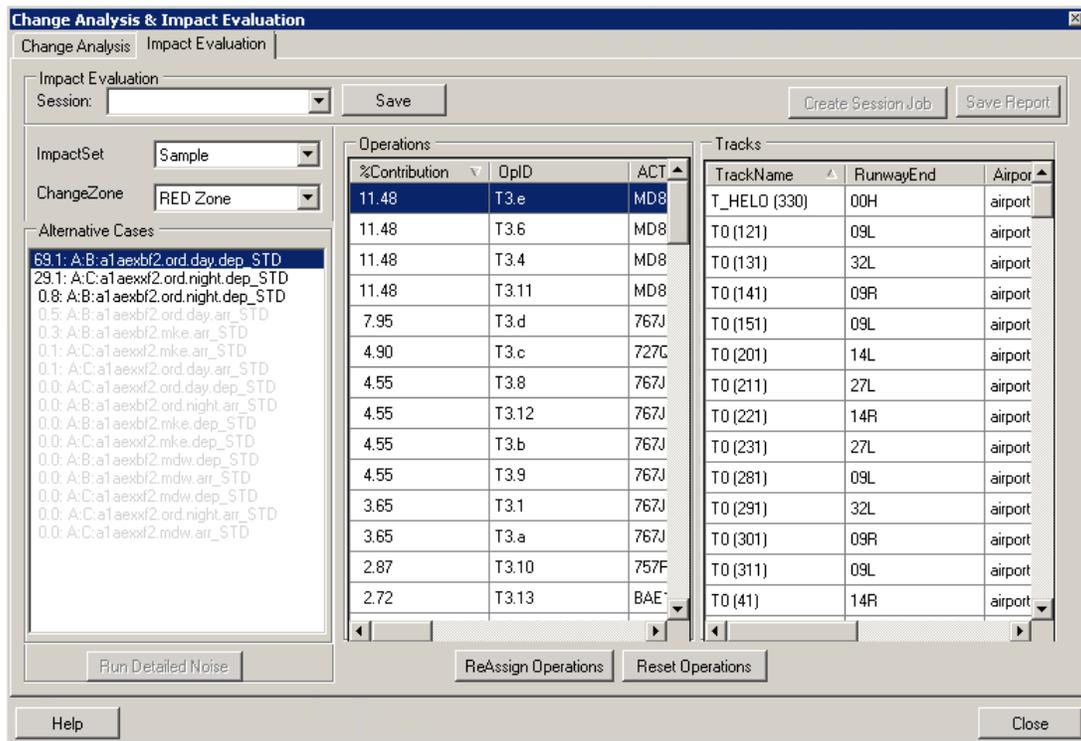

Figure 8-12 Change Analysis &amp; Impact Evaluation Dialog Box
1. Select an *Impact Set* and a *Change Zone* from the drop-down menus (Figure 8-12).